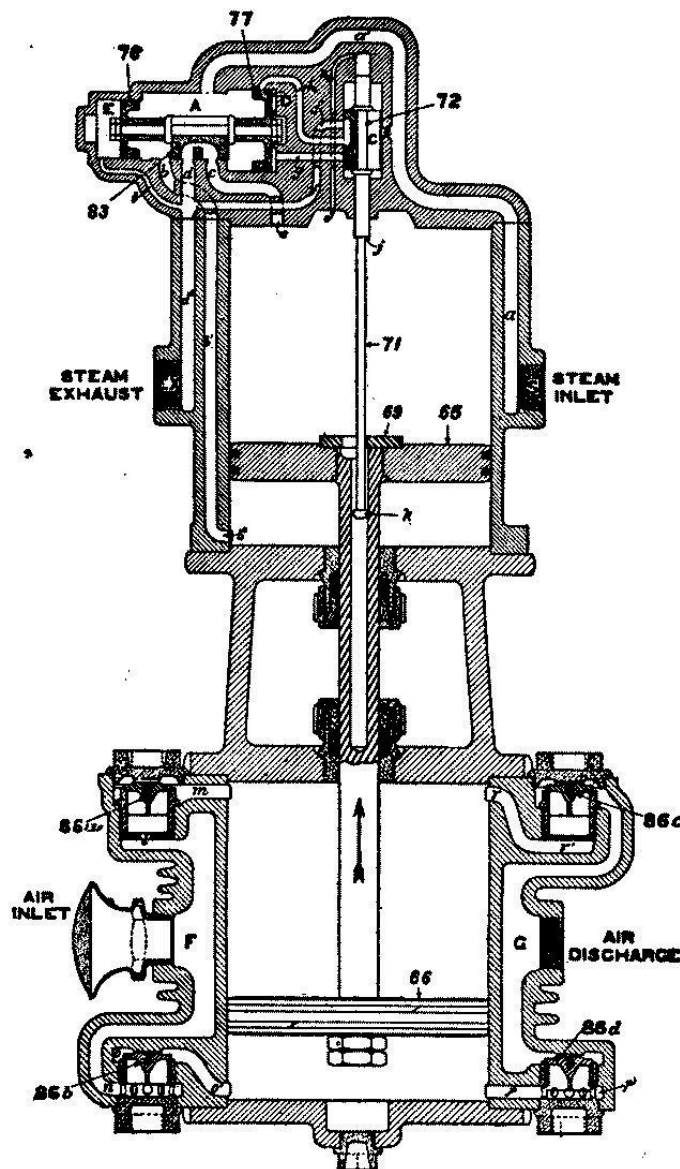

Fig. 2: Diagrammatic View, Up Stroke.
A. When steam is turned on at the boiler it flows through the steam pipe and governor, entering the compressor at the steam enlet, then through the steam passage "a" to the reversing valve chamber "C" also to the main valve chamber "A" between the differential pistons 77 and 79. The area of the piston at the right being greater than the one at the left, the main valve is moved to the right, (See Fig. 2) admitting steam to port "b" which leads to the lower end of the steam cylinder; steam is now free to flow under the
A. The movement of the steam piston 65 is imparted to the air piston 66 by means of the piston rod. When the air piston moves up, a partial vacuum is formed below it, and air from the atmosphere will enter through passage "F" thence through passage "n" to the under side of receiving valve 86b (see Fig. 2), lifting this valve from its seat, and will fill the cylinder with air at about atmosphere pressure.